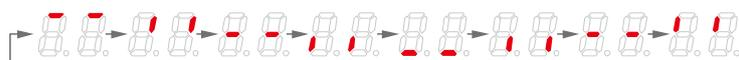

Figure 6: Start-up display
- 5.6 With the SD memory card still inserted, turn ON the power. When the 7-segment LED shows the start-up display (see figure 6), the upgrade begins. The upgrade can take several minutes. Do not turn OFF the unit while the upgrade is in progress. When the 7-segment LED displays "00", the upgrade is complete.